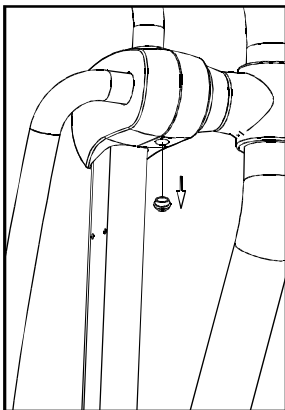

Fig.12
2. (a) Remove the access cap. (see fig.12)